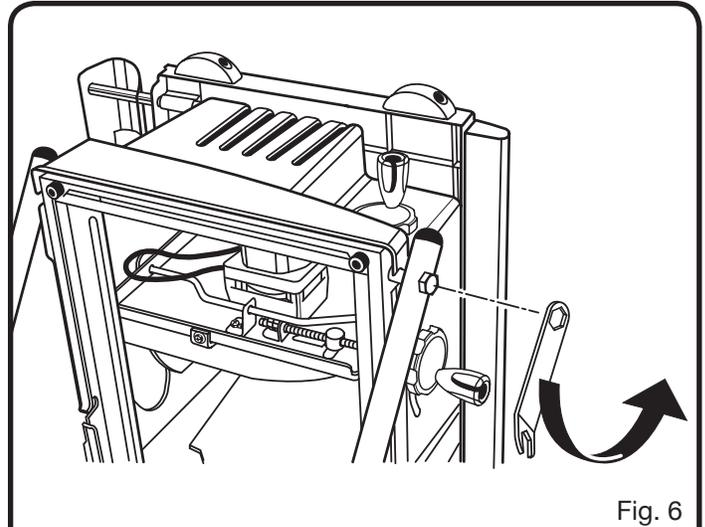

Fig. 6
See Figures 6 - 7.
- Loosen bolts on each side of the table saw by turning counterclockwise. See Figure 6.